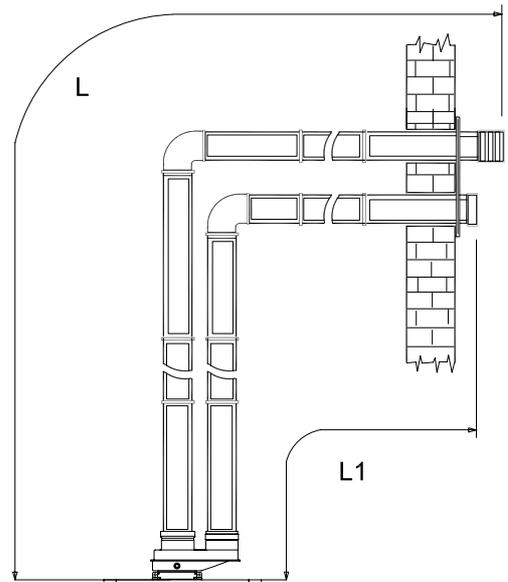

Fig. 26
5.17 Exhaust/suction system with two separate pipes through a single vertical wall (fig. 26).